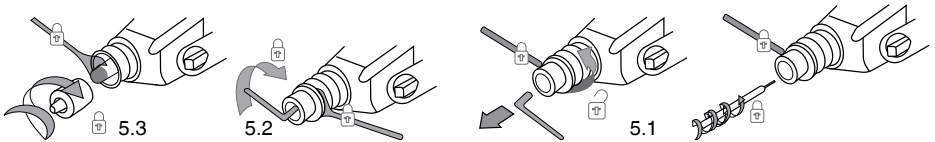

Fig 5
MOUNTING / DISMOUNTING OF THE DRILL CHUCK (SEE FIG 5,6)
- To mount the gear rim chuck, carry out the operations in consecutive stages as it is shown in figure 5.